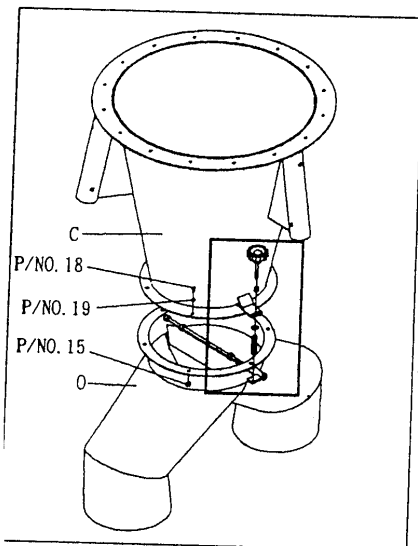

FIG. 7
Mount the 2 hole outlet (O) at the bottom of reducing collector support frame (C) by using the hex. head screw 5/16" x 1"(P/NO. 18), Washer 5/16" x 18mm(P/NO. 19), and Hex Nut 5/16"(P/NO.15). Then, roll screws together by following in turn of Wing Head Screw M8 x 65(P/NO.58), Nut M8(P/NO.59), Flat Washer 8.2 x 18(P/NO.61), and Comprqssion Spring (P/NO.62) on the position as FIG. 7. And the completed assembly as FIG. 8.